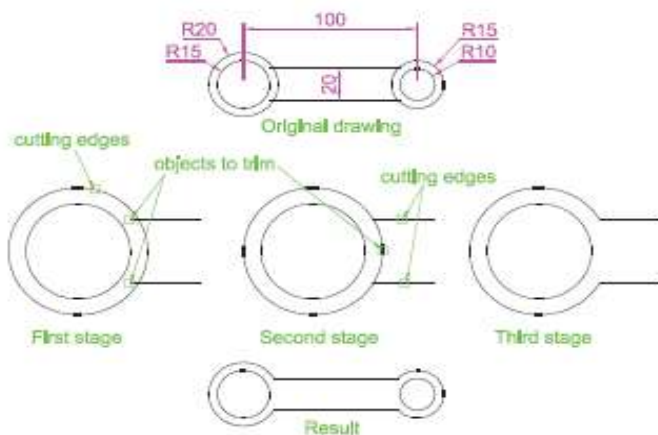

Fig. 5.31 First example – Trim
First example – **Trim** (Fig. 5.31)
1. Construct the drawing **Original drawing** shown in Fig. 5.31 .
3. This completes the **First stage** as shown in Fig. 5.31. Repeat the **Trim** sequence for the **Second stage**.
4. The **Third stage** drawing of Fig. 5.31 shows the result of the trims at the left-hand end of the drawing.
5. Repeat for the right-hand end. The final result is shown in the drawing labelled **Result** in Fig. 5.31 .